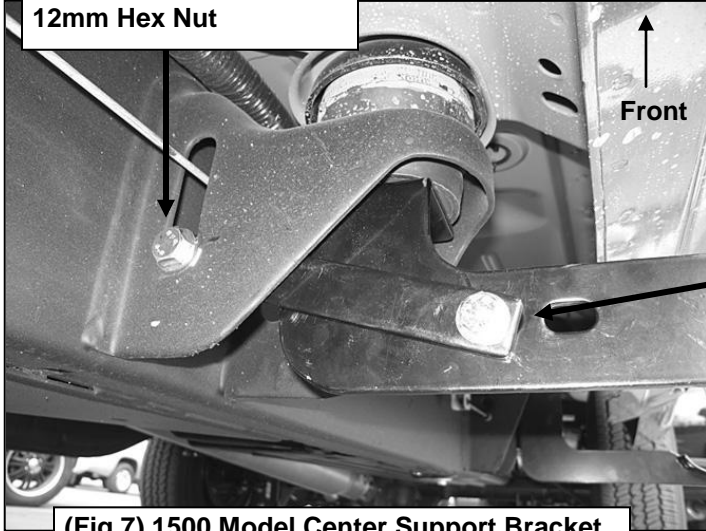

**Fig 6**
Note that the Front Support Bracket will not reach up to the Mounting Bracket, **(Figure 4)**. Tighten the Support Bracket to the Nut Plate in the frame. Carefully push up on the Support Bracket until it reaches the inside hole in the Mounting Bracket, **(Figure 5)**. Bolt the Support Bracket to the hole in the Mounting Bracket with (1) 10mm x 30mm Hex Bolt, (2) 10mm Flat Washers, (1) 10mm Lock Washer and (1) 10mm Hex Nut, **(Figure 6)**. Do not tighten at this time.